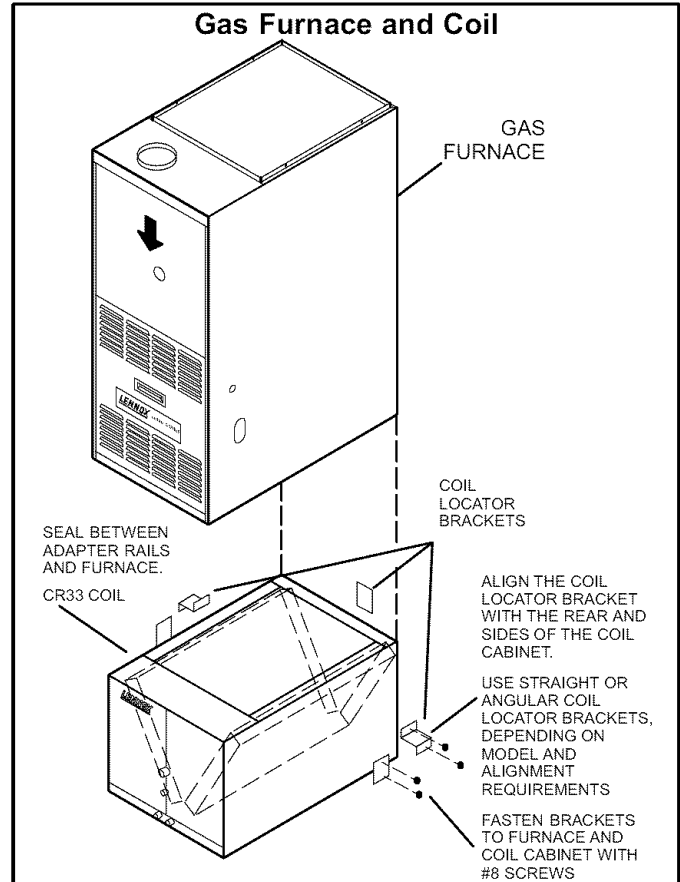

Figure 1
- Coil Cabinet Width**—Install the provided coil locator brackets on the coil. Align the coil locator brackets with the rear and sides of the coil cabinet. Figure 1 illustrates how the furnace, coil, and coil locator brackets fit together.